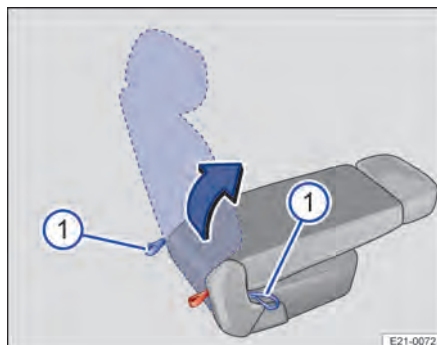

Fig. 65 Second row of seats: folding the backrest forward and backward.
4. Pull one of the loops → Fig. 65 ① behind the seat or at the side of the seat forwards and hold. Fold the backrest forward a little and release the loop.
1. Pull one of the loops behind the seat or at the side of the seat forwards and hold → Fig. 65 ①. Fold the backrest up a little and release the loop.